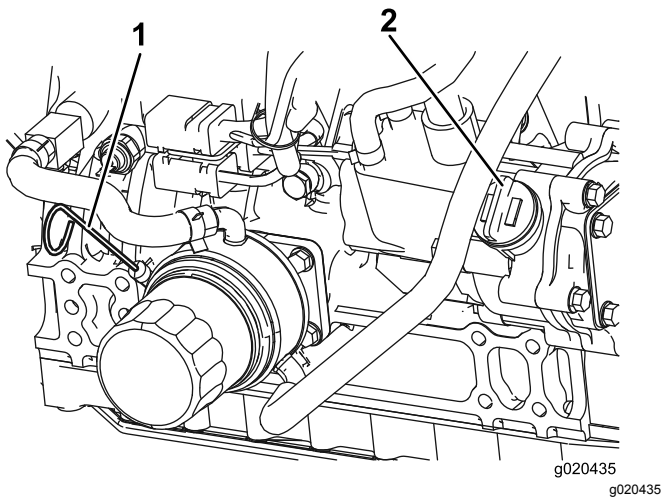

Figure 73
3. Remove the dipstick, wipe it clean, install the dipstick into the tube, and pull it out again. The oil level should be up to the Full mark (Figure 73).
4. If the oil is below the Full mark, remove the fill cap (Figure 73) and add oil until the level reaches the Full mark. **Do not overfill.**